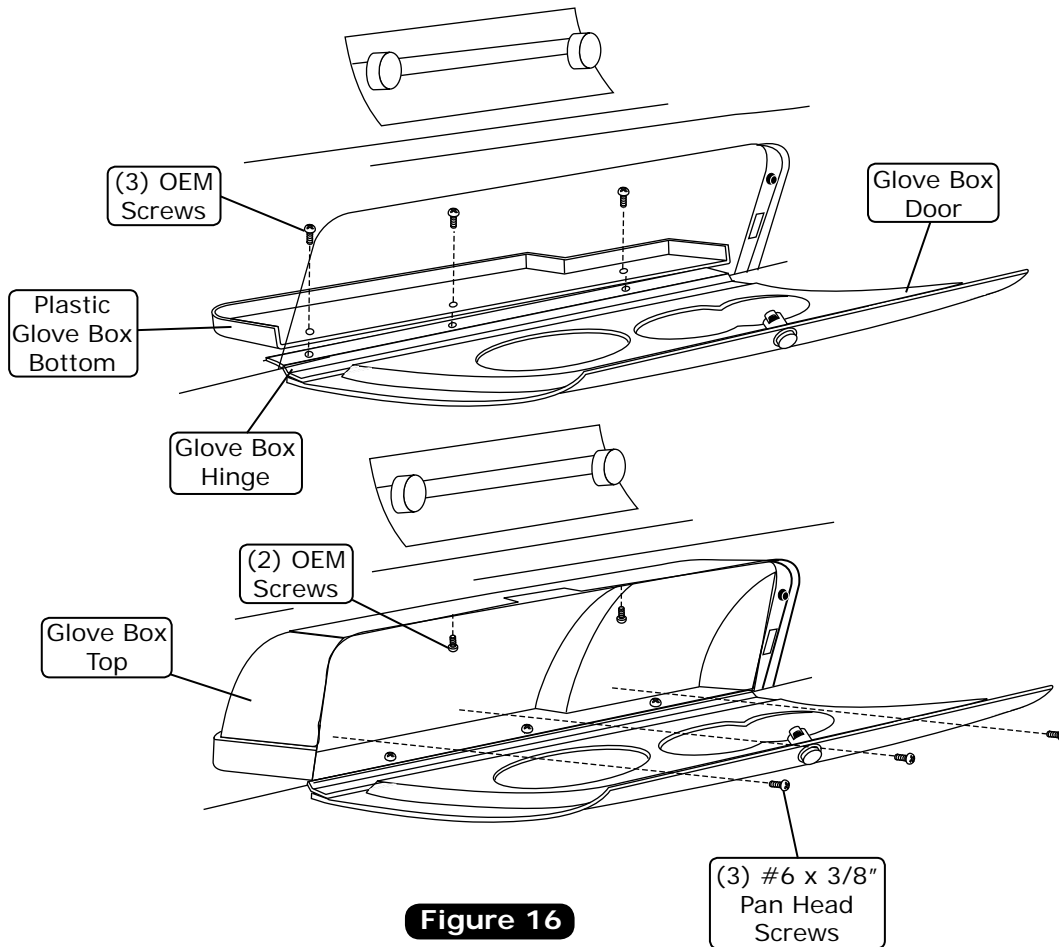

Figure 16
1. Install the glove box bottom and glove box door. Secure to the dash with (3) OEM screws (See Figure 16, below).
2. With the glove box bottom and door in place, install the glove box top as shown in Figure 16, below. Using (3) #6 x 3/8" pan head screws, attach the glove box top to the glove box bottom as shown in Figure 16, below.
3. Secure the glove box top to the dash using (2) OEM screws (See Figure 16, below).